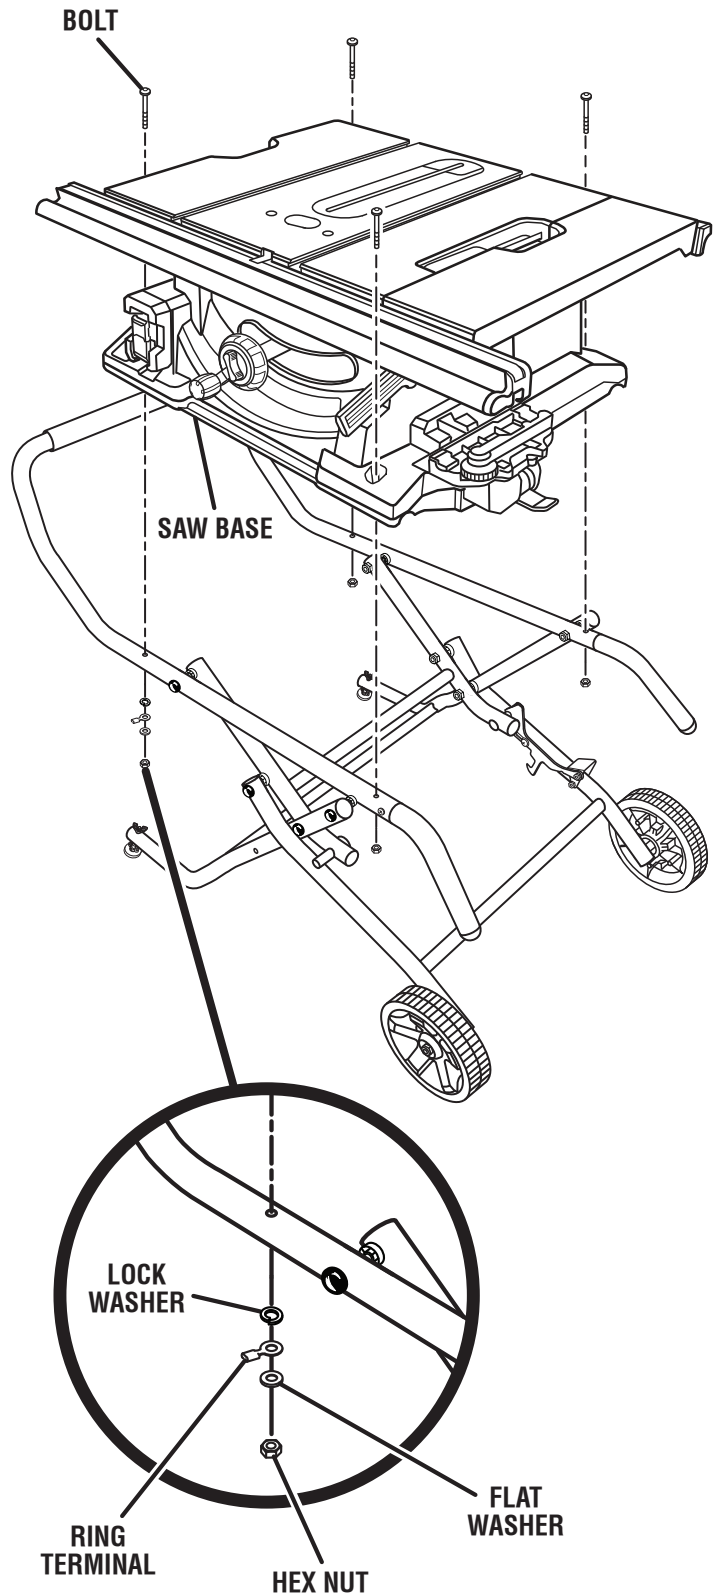

Fig. 9
See Figure 9.
- Add a lock washer, flat washer, ring terminal (from switch box), and a hex nut. Hand tighten. *See Figure 9.*